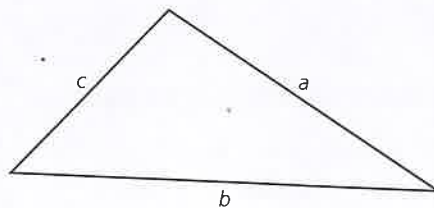

Figure 4.23b Three sides are given
- three sides (see Figure 4.23b).